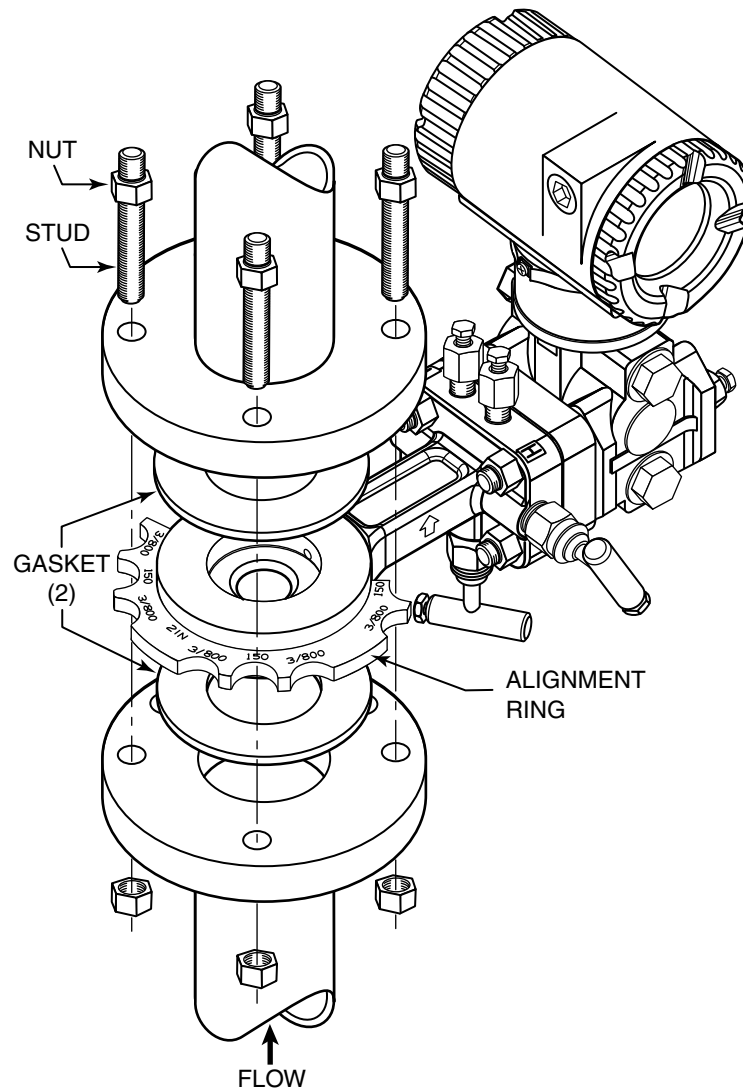

Figure 5. Compact Orifice Installation
- Place the alignment ring on the orifice plate. See Figure 5.